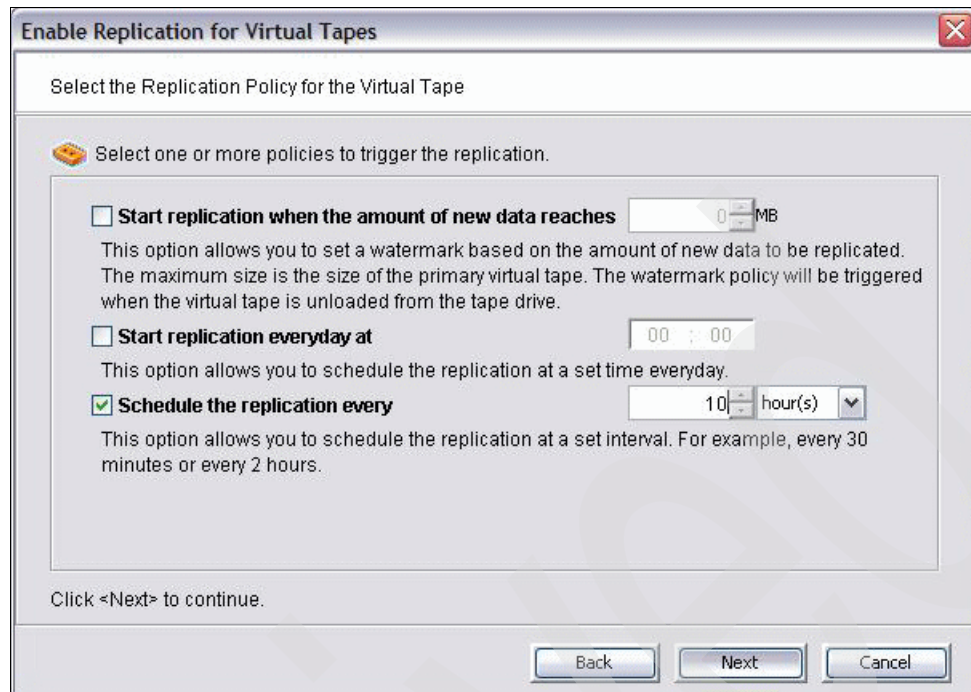

Figure 7-13 Specifying a replication trigger
5. Different triggers can be used for replication. In the Select the Replication Policy for the Virtual Tape display (Figure 7-13 on page 264), you can define the triggers for replication.